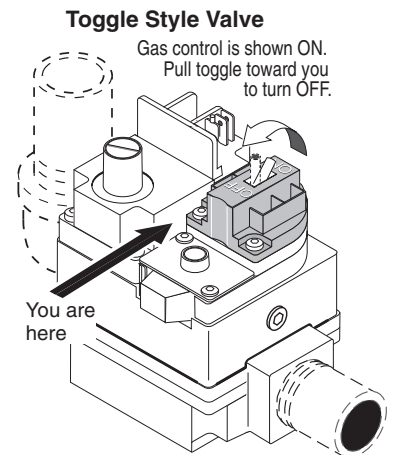

Figure 38.
6. **Toggle-Style Valve:** Pull toggle toward you to turn gas off, see Figure 38.
7. Wait five (5) minutes to clear out any gas. If you then smell gas, **STOP!** Follow “B” in the “Before Start-up” instructions (page 38). If you don’t smell gas, go to the next step.
4. Toggle-Style Valve: Pull toggle toward you to turn gas off, see Figure 38.